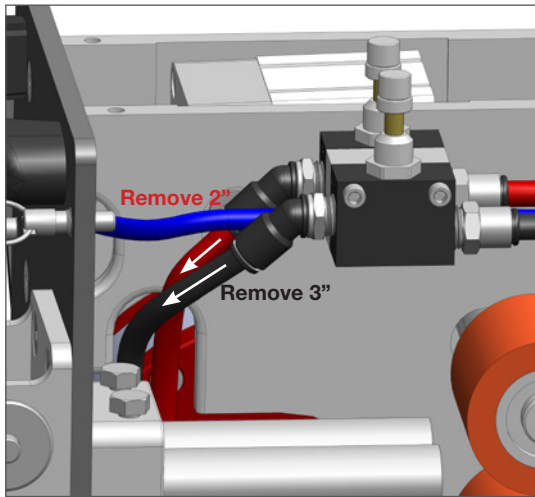
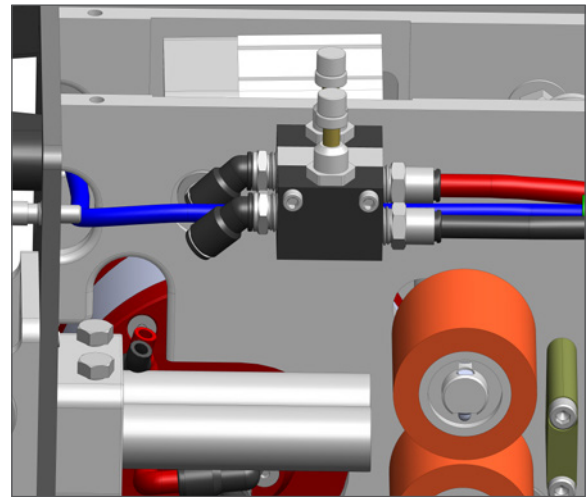

FIGURE 1
FIGURE 2
1. Remove the 4 flat head cap screws from the Top Plate using a 5/32 Allen wrench hex key. Set the Top Plate and screws aside, and open the Side Door. **(FIGURE 1)**
2. Unplug the three tubes from the bottom of the manifold **(FIGURE 2)** and remove the 2 hex head bolts using a 7/16 socket driver or box wrench. Remove and retain the top 3 JIC fitting assemblies, and disconnect the 3 air tubes from the bottom of the Air Manifold. Discard the old manifold. **(FIGURE 3)**
1. Install the 3 JIC fitting assemblies to the new AutoStroke Air Manifold. Use pipe dope or tape on the NPT tapered threads. Re-attach the air manifold using the 2 hex head bolts that were reserved from the original manifold assembly. **(FIGURE 1)**
2. Reconnect the 3 air tubes (blue, red, and black) to the push-to-connect fittings on the bottom of the air manifold. **(FIGURE 2)**
1. Disconnect the red and black air tubes from the fittings on the left side of the flow controls. **(FIGURE 1)** Cut exactly 2 inches off the end of the red tube and 3 inches off the black tube. **(FIGURE 2)**